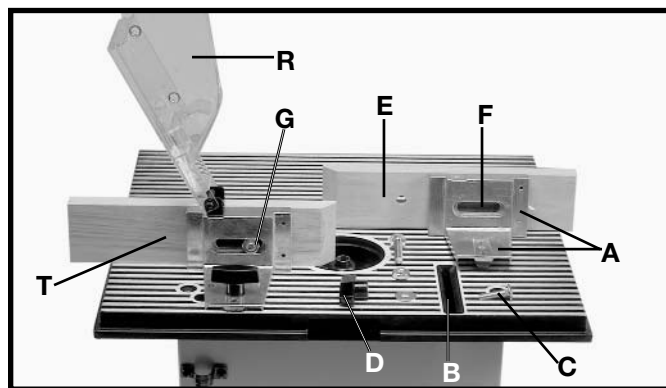

Fig. 7
1. **NOTE:** The fence body with the see-thru cutter guard (R) Fig. 7, assembled to it, is to be assembled to the right hand side of the table, when facing the front of the machine. (**Note: Fig. 7 is shown from the rear of the machine for clarity.**) Place keyed bottom portion of the left hand fence body (A) Fig. 7, in table slot (B). Insert a 5/16-18x1-1/4" carriage head bolt (C) up through bottom of table slot (B), place a 5/16" flat washer on bolt and secure with fence knob (D).
2. Place back of wooden fence (E) Fig. 7, against front of fence body (A), as shown. Line up hole in wooden fence (E) with slot (F) in fence body (A) and fasten wooden fence (E) to fence body by inserting a 3/8-16x1-1/2" screw through hole in wooden fence and hole in fence body thread a 3/8-16 hex nut (G) onto the 3/8-16x1-1/2" screw.
3. Assemble the right hand fence assembly (T) Fig. 7, to the table in the same manner.